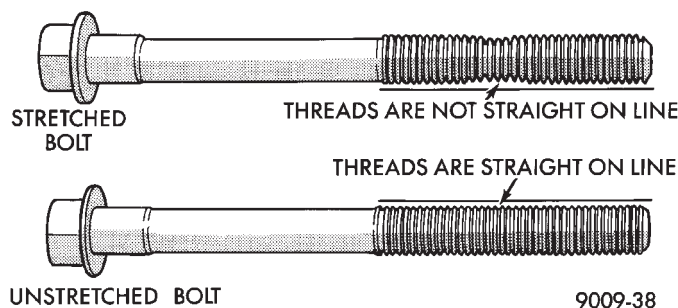
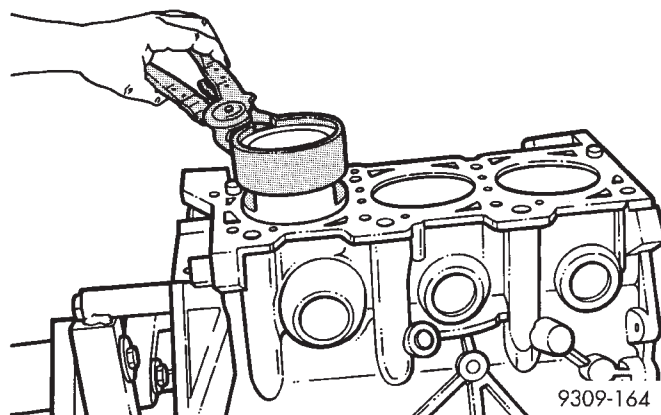

Fig. 99 Check for Stretched Bolts
Fig. 100 Piston—Installation
(1) Check connecting rod bolts for necking by holding a scale or straight edge against the threads. If all threads do not contact the scale, the bolt should be replaced (Fig. 99).
(2) Before installing pistons and connecting rod assemblies into the bore, ensure that compression ring gaps are staggered so that neither is in line with oil ring rail gap.
(3) Before installing the ring compressor, make sure the oil ring expander ends are butted and the rail gaps located as shown in (Fig. 100).
(4) Immerse the piston head and rings in clean engine oil, slide the ring compressor over the piston and tighten with the special wrench. **Ensure posi-**